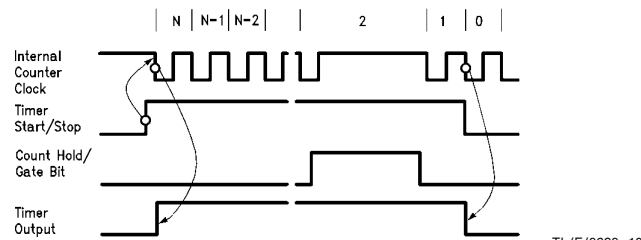

FIGURE 8. Typical Waveforms for Timer Mode 0 (Timer Output Programmed Active High)
of the input data registers are loaded into the timer. The output will stay high until the counter reaches zero. At zero the output is reset. The result is an output pulse whose duration is equal to the input clock period times the count value (N) loaded into the input data register. This is shown in *Figure 8*.